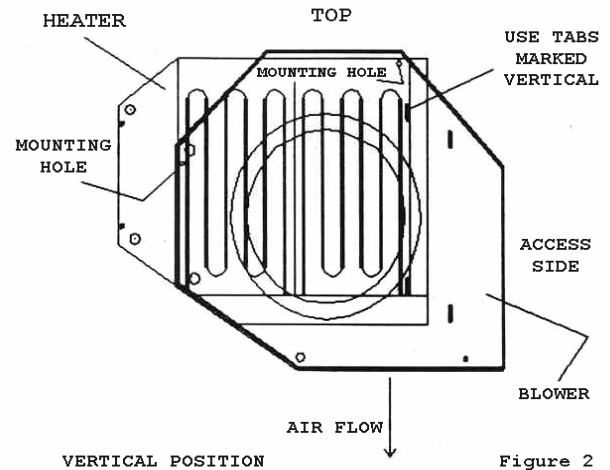

Figure 2
6. Install heater assembly on top of blower housing before reinstalling blower for vertical air flow. Ensure that the tabs on the heater assembly (marked vertical) engage the correct slots on the blower housing. Secure heater assembly with self tapping screws provided (See Figure 2).